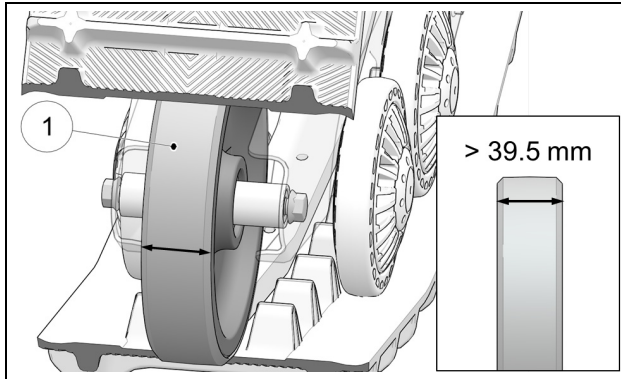

Figure 40
Verify wear on contact band (1) of 200-mm Wheels. The wheel must be replaced if the surface is worn out, cracked or has holes in it. A wheel that is excessively worn will not offer enough support for track guidance. Track guides may also wear prematurely. Figure 40.
Verify wear on guidance strips on both sides of 200-mm wheels. Replace wheel if it narrows to a width of 39.5 mm or less (42.5 mm when new). A wheel that is excessively worn will not offer enough support for track guidance. Figure 40.